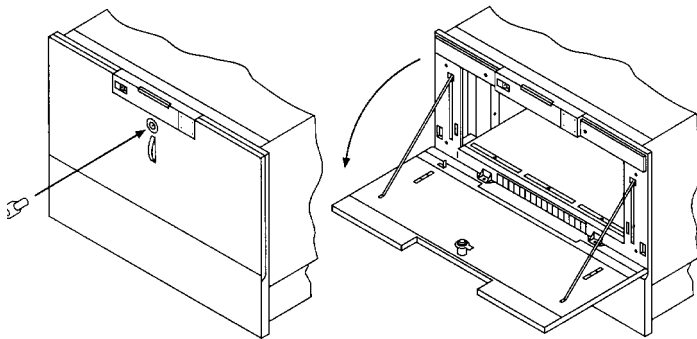

Figure 3-9. Opening the Front Access Door
6. Open the access door by pulling the top of the door outward. (Refer to Figure 3-9). Do not let the door fall open.